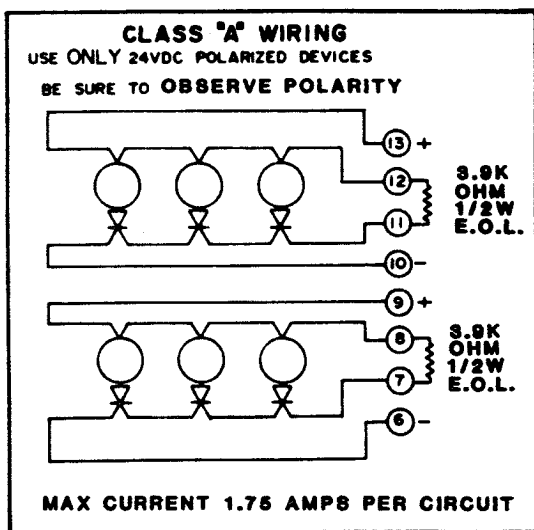

FIGURE 4A
3. SIGNALLING CIRCUITS (Fig. 4A & 4B)
CLASS A WIRING (Fig. 4A)
SIGNAL CIRCUIT 1, remove the 3.9K OHM, 1/2 WATT, resistor from terminals 6(-) and 9(+), and connect resistor to terminals 7 and 8. Connect field wiring to terminals per Figure 4A.
SIGNAL CIRCUIT 2, remove the 3.9K OHM, 1/2 WATT, resistor from terminals 10(-) and 13(+), and connect resistor to terminals 11 and 12. Connect field wiring to terminals per Figure 4A.